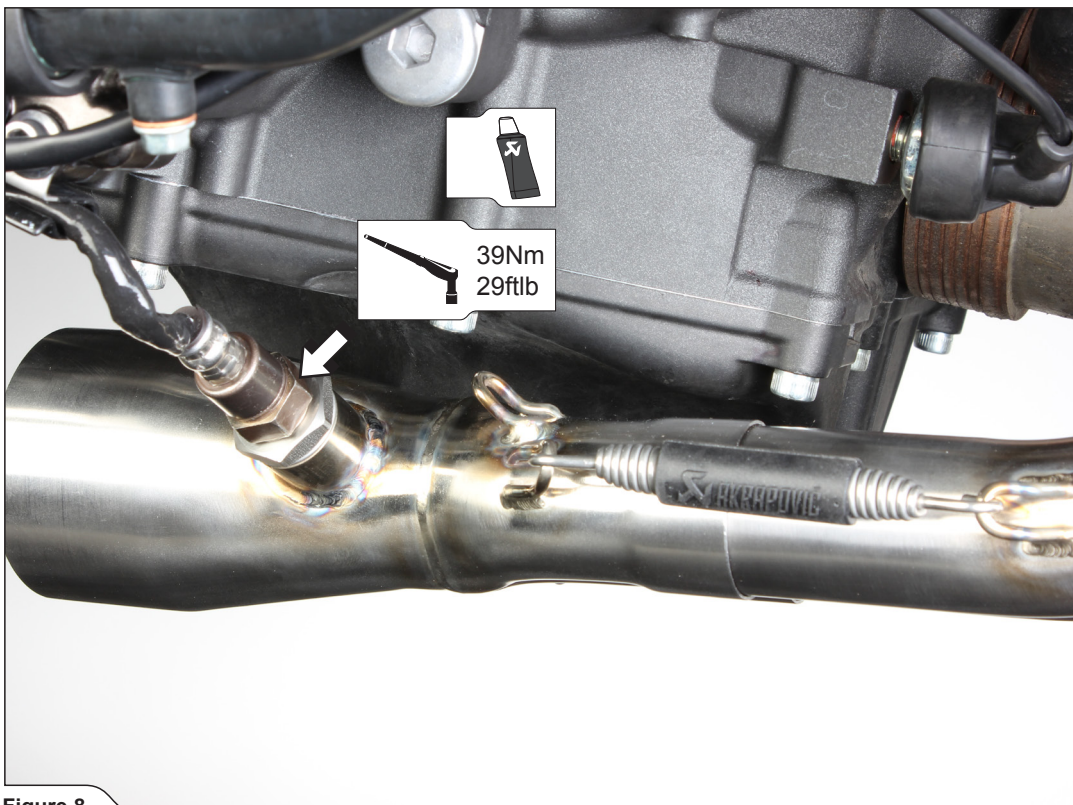

Figure 8
- ! **WARNING:** make sure not to damage the lambda sensor's electrical lead during this process (Figure 8)!